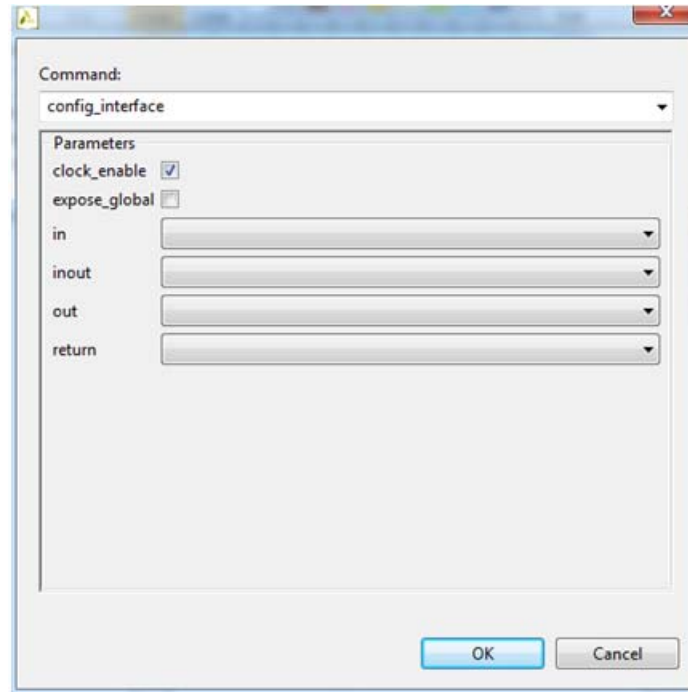

Figure 3-13: Command Configuration
6. Set `config_interface` as the command (Figure 3-13).
7. Click **Clock Enable** (Figure 3-13) and then click **OK**.